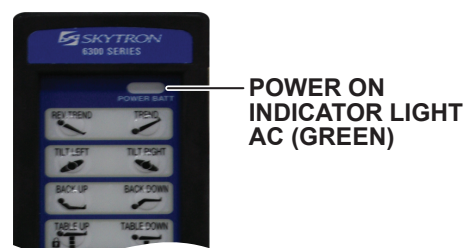

Figure 3-6. Pendant Control (AC Power)
3. Place the main power switch (POWER SWITCH) in the ON position. The switch will illuminate. The pendant control buttons and the green AC, POWER indicator light, located in the upper right corner of the pendant control, will illuminate (Figure 3-6).